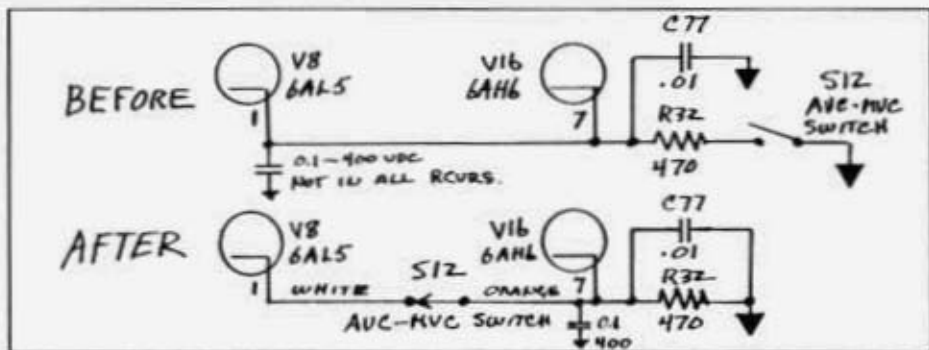

Figure 2, AVC-MVC modification.
22) If satisfied that the product detector is working correctly, proceed with the AVC-MVC modification as indicated in Figure 2.